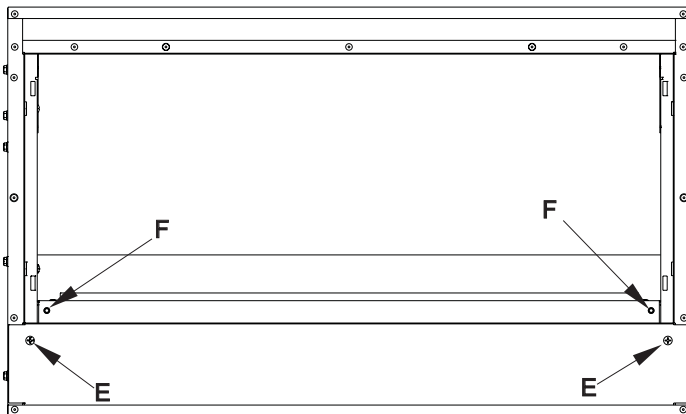

Figure 7
4. Remove screws at "E". Remove the bottom panel by lifting and set aside in a safe location. **See Figure 7.**
5. Remove screws at "F". Remove burner assembly and set aside in a safe location. **See Figure 7.**
15. Place burner assembly inside fireplace and replace the two truss-head screws ("F" in **Figure 7**).
22. Replace bottom panel and re-insert two black, truss-head screws ("E" in **Figure 7**).